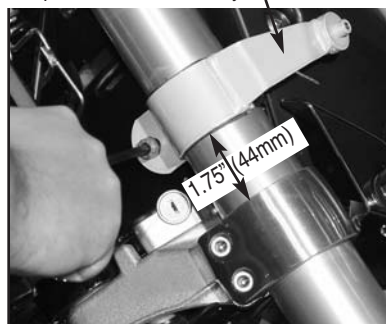

Figure 7
4. **Loosely** install one M8 x 16 screw. (**6mm Hex Key**) **Figure 7**